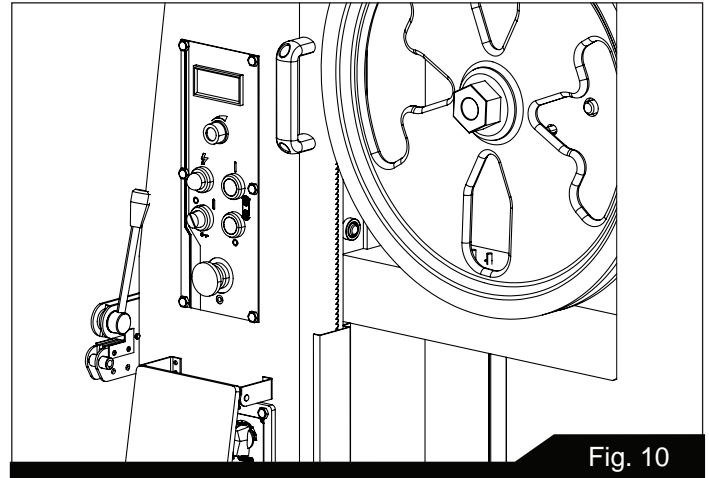

Fig. 10
7. Verify that blade rests against ball bearing (Figure 10), not behind it.